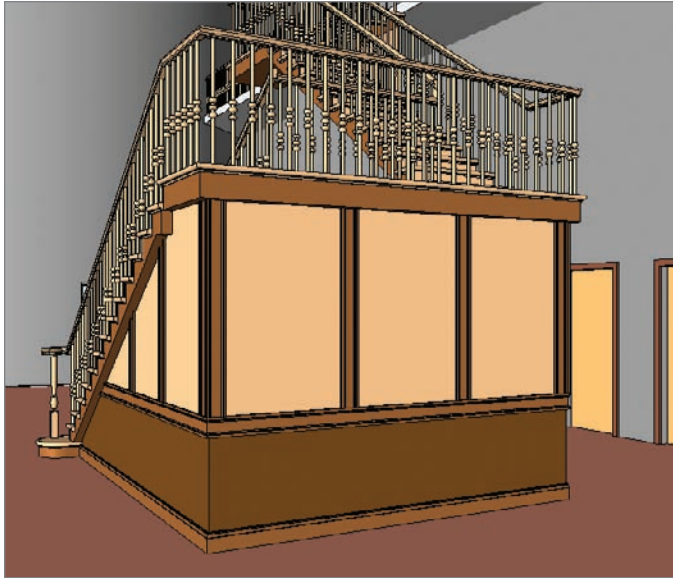

FIGURE 16.21 The final walls with the sweeps added
18. Add vertical rails at a 3'-0" +/- to the other walls as well. Your walls should look like Figure 16.21.